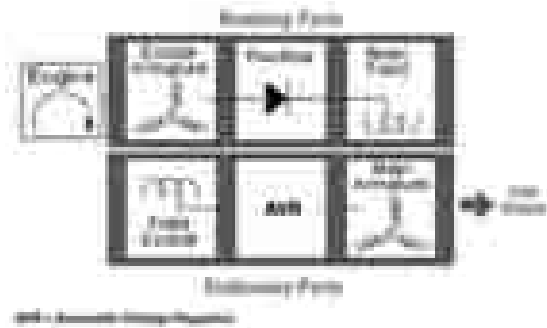

Figure 36
The generator can be deemed Self-Excited (SE) as well. An SE generator uses the output from the main generator to supply its own exciter current. When assembled, a brushless generator contains the functional parts shown in **Figure 36**. The engine drives the exciter armature, rectifier, and main field, while the main armature, automatic voltage regulation, and exciter field are stationary.